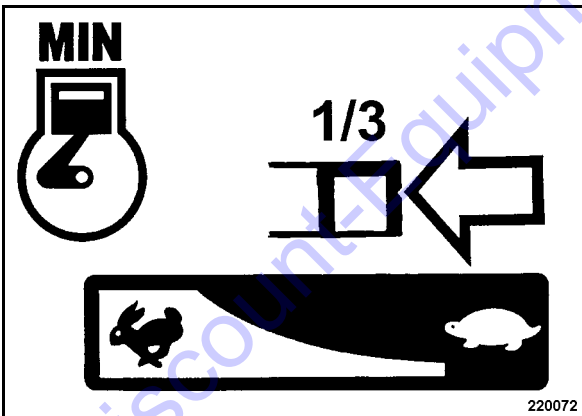

Fig. 19
- Set the throttle lever (Fig. 19) to 1/3 throttle position.